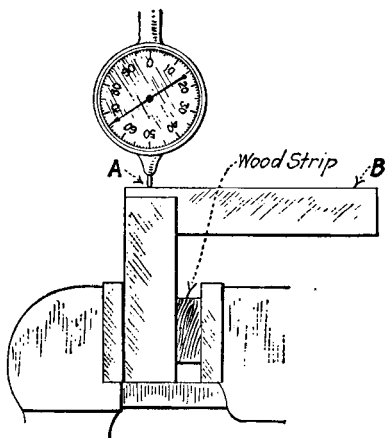

Fig. 2-33. Testing the solid jaw of a vise for squareness.
1. Clamp the beam of a precision square against the solid jaw (with a piece of wood between the movable jaw and the square), as shown in Fig. 2-33.